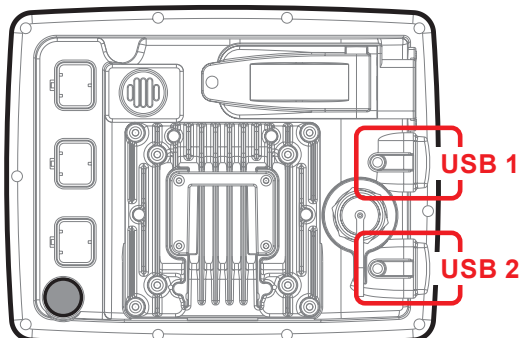

Fig. 97
- Insert a USB pendrive in the relevant slots (Fig. 97).
- Insert the USB pendrive into the **USB 1 / USB 2** slot (Fig. 97).